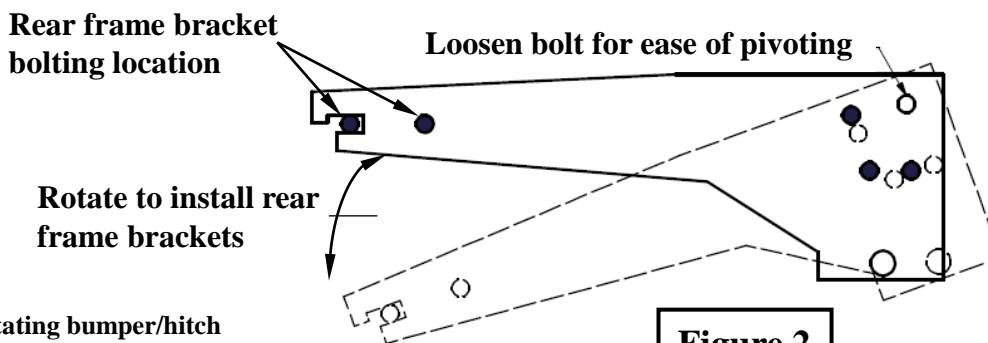

Figure 2
3. If bumper/hitch bracket is present. Remove 5 of the 6 bumper/hitch frame bracket on both sides of vehicle. Loosen the top rear most bolt to allow the bumper/hitch frame bracket to pivot. Note: Bolt location marked with a ● needs to be removed. (See Figure 2)